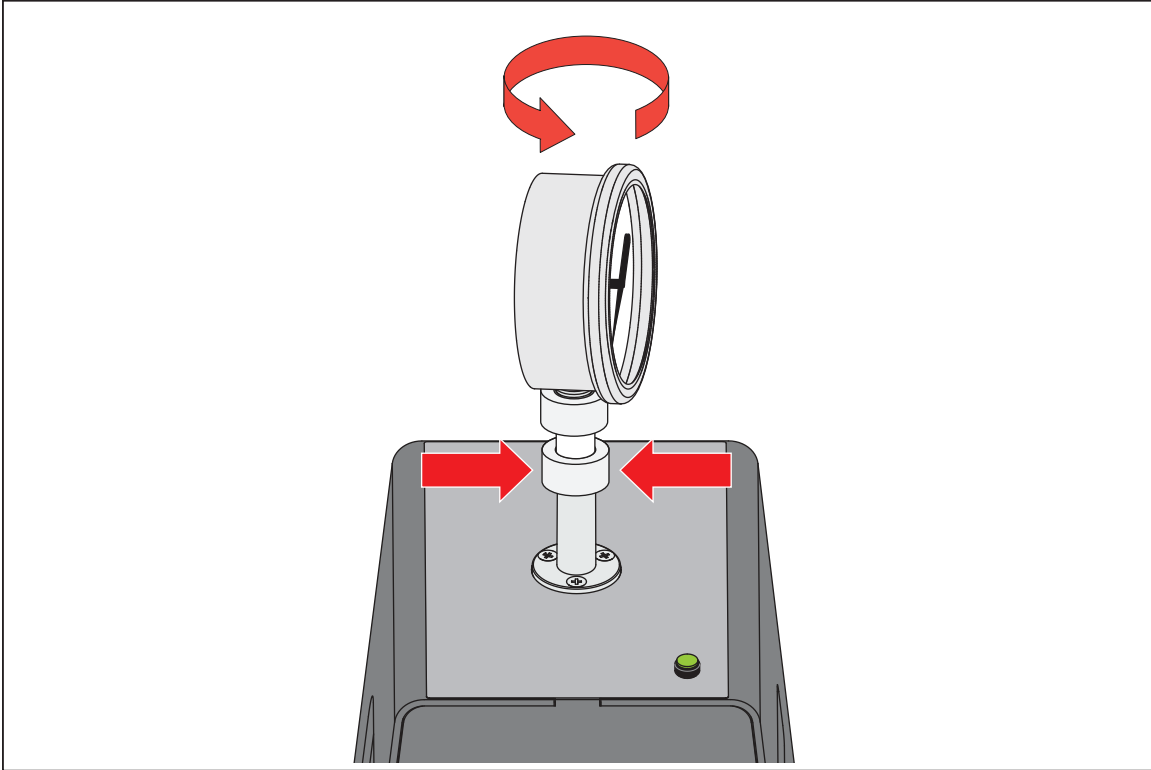

Figure 21. Adjust Gauge Position
3. To adjust the position to face forward, hold the gauge adapter and turn the instrument COUNTER-CLOCKWISE, so that it faces forward, see Figure 21.